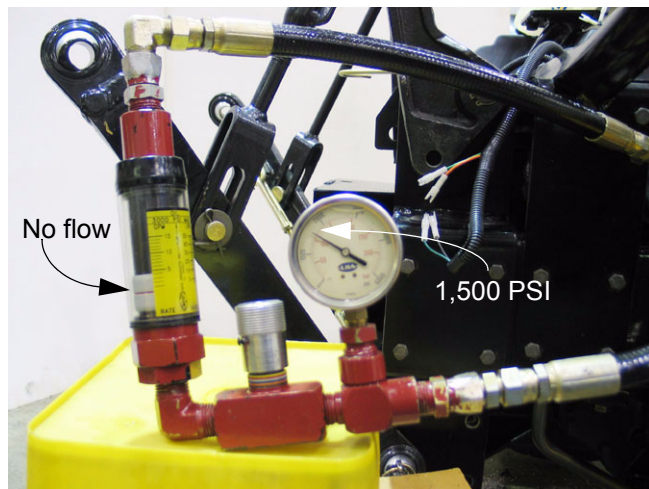

Figure 8.28
- 8.28. Continue moving the arms up until they reach the top end of their travel. Note the pressure reading. See Figure 8.28.